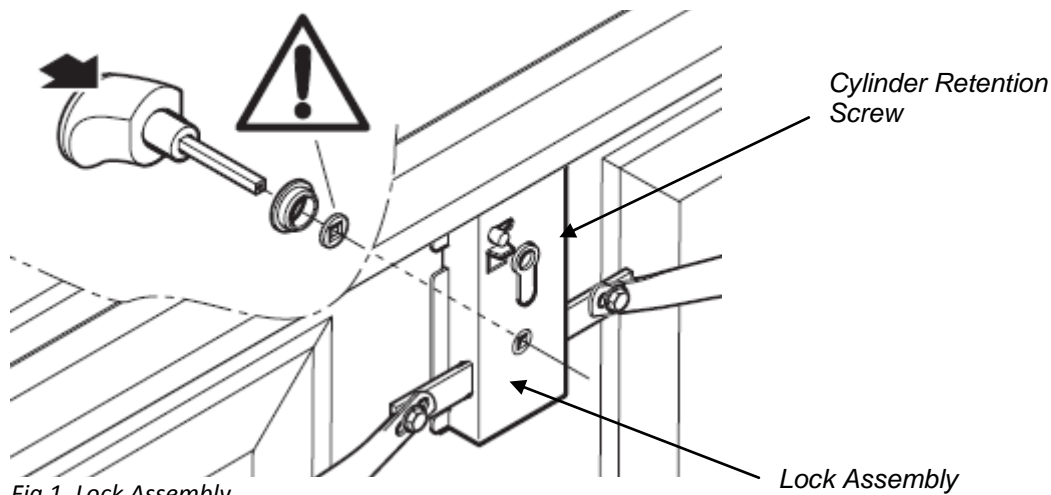

Fig 1. Lock Assembly
1. Locate the interior lock assembly (see Fig.1)
2. Remove lock cylinder retention screw (see Fig.1)